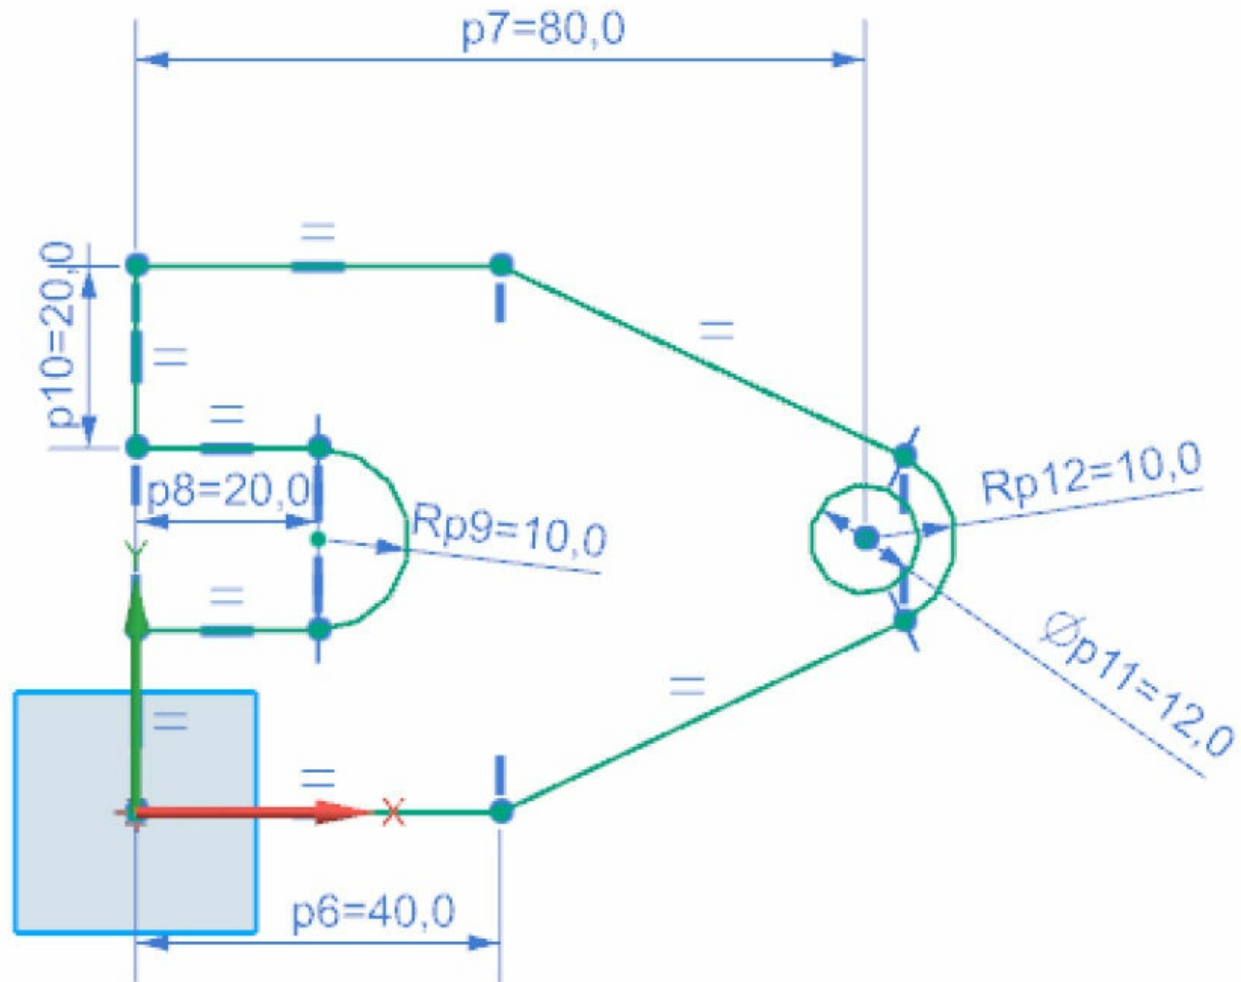

Figure 3-58 *The final sketch after adding the required dimensions*
1. Double-click on the dimension of line 7; a dynamic edit box is displayed. Modify the value of the dimension to **20** and press ENTER. Next, drag and place the dimension below the line, refer to Figure 3-58.
7. Select the circle and place the dimension, refer to Figure 3-58. Next, modify the dimension value to 12 and press ENTER.
The final sketch after adding the required dimensions is shown in Figure 3-58.